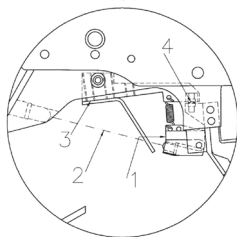

FIG.3
Close the cocking lever (1) paying attention that your trigger finger is NOT in the optical sensor line (Fig. 3 particular 2, optical sensors), otherwise the shot may be fired accidentally caused by the vibration during the loading procedure, especially if the trigger adjustment is set to fine.
To fire the shot, put the finger on the trigger. Always pay attention that your finger interrupts the optical sensor (Fig. 3, particular 2, optical sensors).
### 3. TRIGGER ADJUSTMENT (FIG. 3 AND FIG. 5)